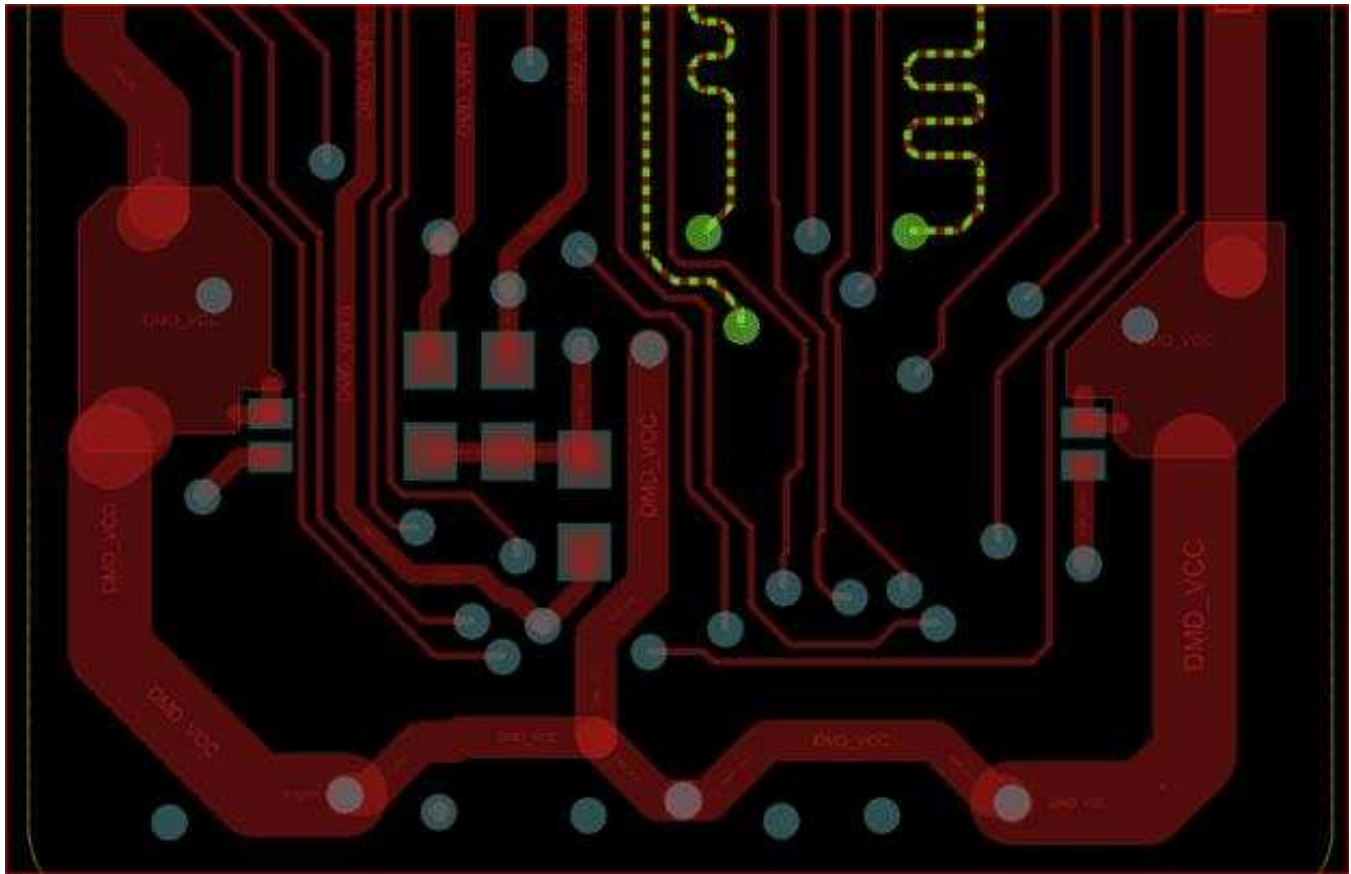

Figure 15. DMD Flex Cable - Bottom Layer
- Figure 14 and Figure 15 show the top and bottom layer of the DMD flex cable connections.